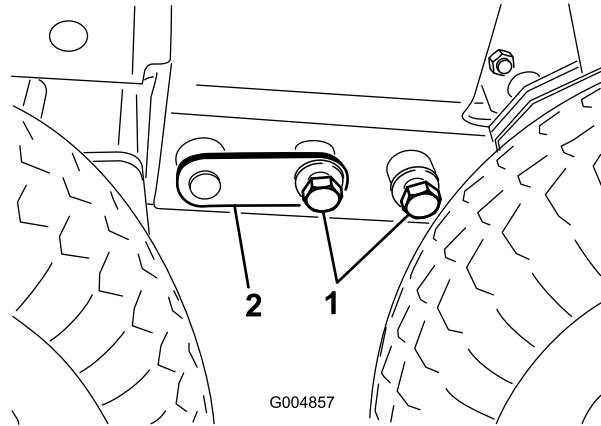

Figure 81
19. Remove the (2) 3/4 inch diameter bolts that attach the front frame to the rear frame ahead of the drive tire from each side of the frame (Figure 81). DO NOT REMOVE THE COUPLER PIN AT THIS TIME.